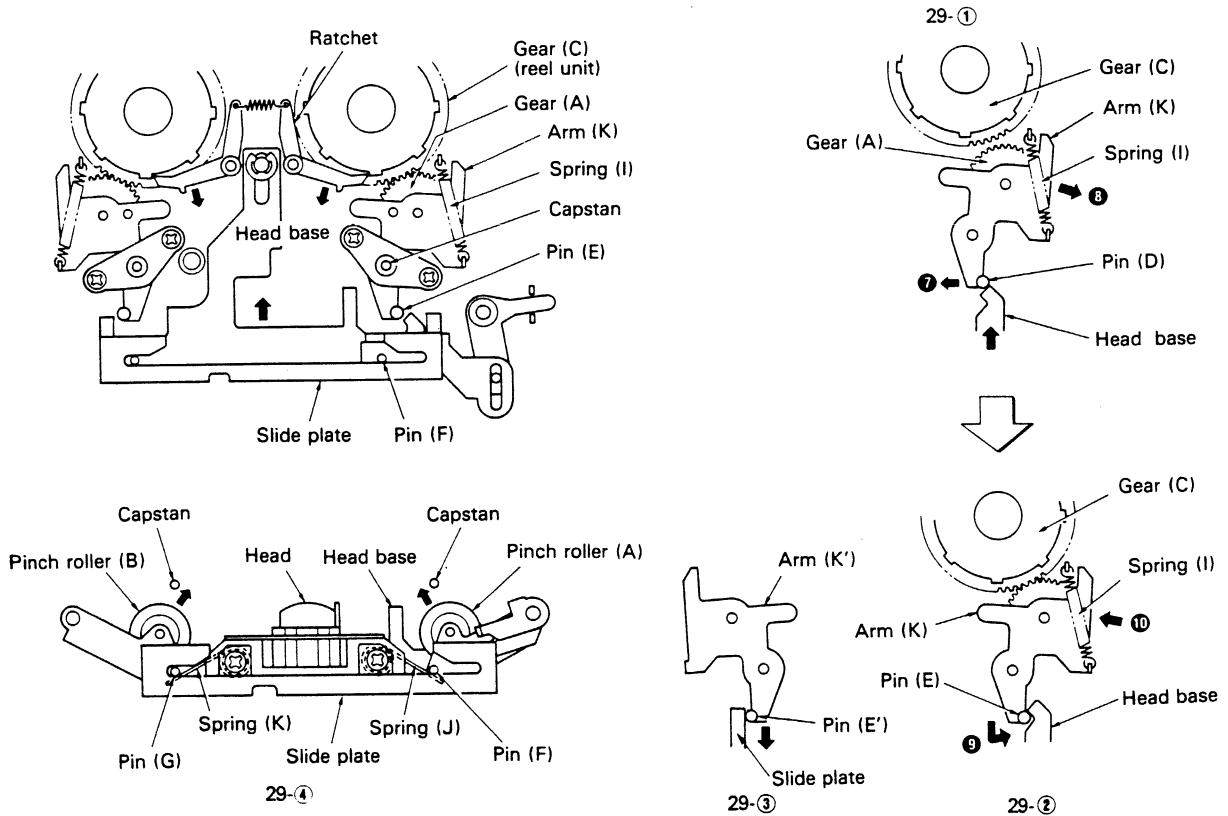

Fig. 29
13. As the head base (Figure 29) moves, the ratchet is pushed forward and gear (C) is unlocked. In addition, arm (K) and the pinch roller begin to move.
14. As the head mount moves in the direction indicated by the arrow in Figure 29-①, pin (E) on arm (K) moves along the head base in the direction indicated by arrow ⑦.
Next, as a result of the pull of spring (I) and the movement of pin (E) in the direction of arrow ⑨ along the head base, arm (K) moves in the direction of arrow ⑩. This action causes gear (A) to engage with gear (C). The motor thus drives gear (C) through gear (A), causing the reels to turn in the FWD direction. On the REV side, pin (E') moves in the direction indicated by the arrow in Figure 29-③. Because the head base is not moving, the arm (K') gear is disengaged from the reel gear.
15. The action of the pinch roller is shown in Figure 29-④. As a result of the pull of spring (J), pin (F) is pushed forward on the capstan side, but is held motionless by a catch on the head base. However, as the head base moves, pin (F) moves, and spring (J) causes pinch roller (A) to press the tape against the capstan, allowing the tape to turn on the FWD side at normal speed.